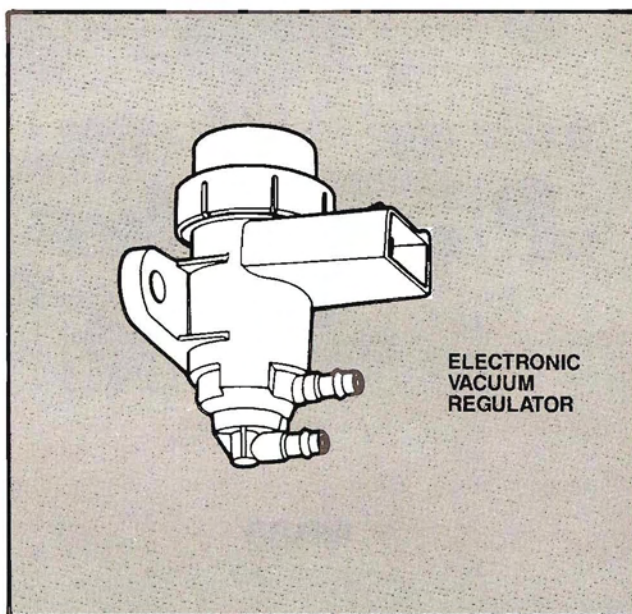

Figure 177. Electronic Vacuum Regulator
- Electronic Vacuum Regulator (Fig. 177)